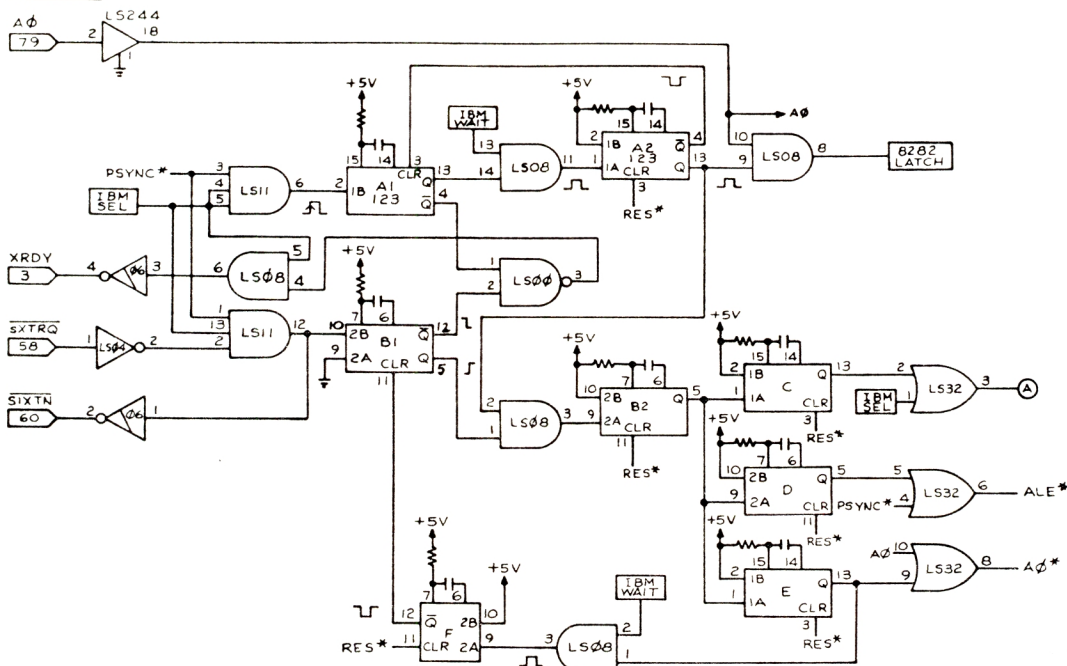
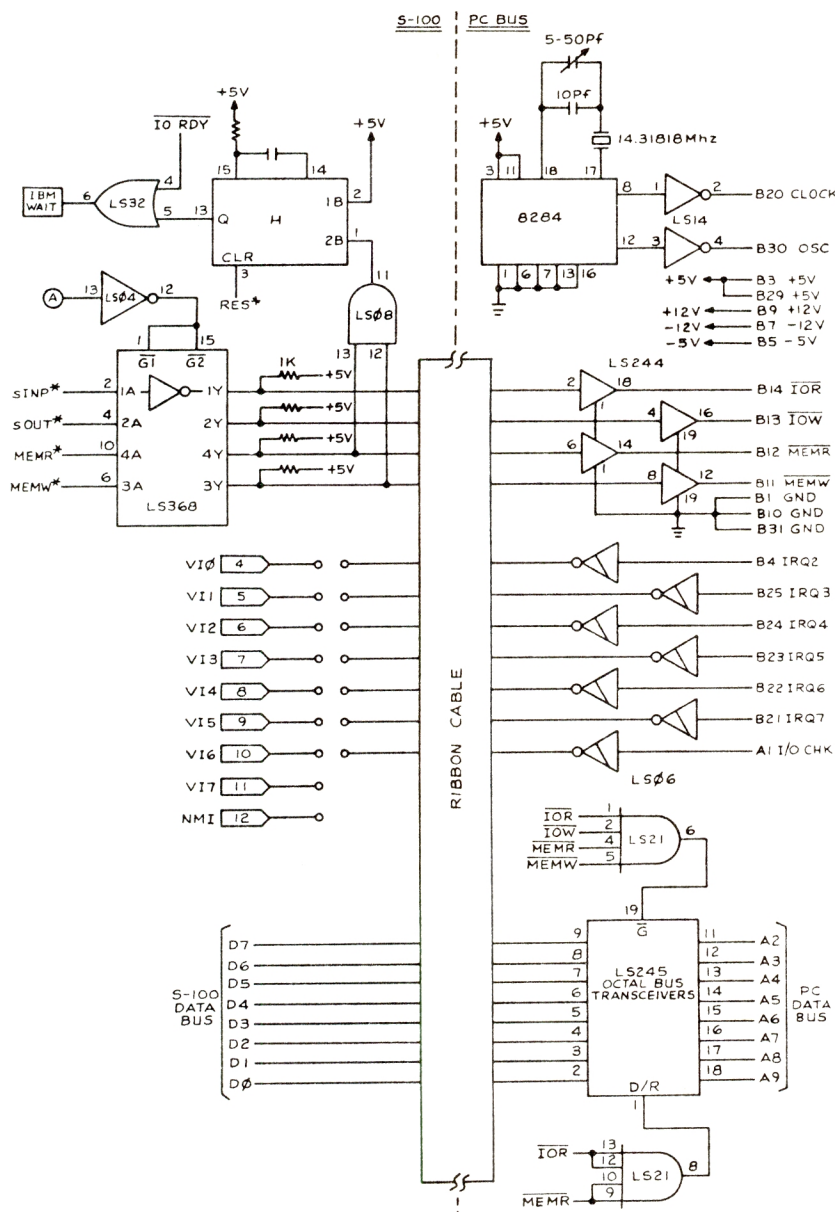

FIGURE 2
FIGURE 4
**A1 - I/O CH CK** Provides the CPU with parity error information if an error is detected on any IBM card. It is normally high and is only pulled low when an error is detected. This signal is simply passed directly on to S-100 bus via NMI int line (pin 12) using an open collector output (figure 4).
**B20 CLK** This is the IBM-PC bus system clock (4.77 MHz , 33% duty cycle). Since the system clock on my S-100 system will normally be running at a very different frequency (8 MHz at present), it is clearly necessary to generate a separate system clock on the PC motherboard. The simplest way to do this is copy the PC directly by using an 8284A clock generator (figure 4), insuring that timing on the bus will be exactly as in a PC.
Figure 2 is the heart of the circuit. Let us consider first 8 bit memory read or write. If the IBM select circuit (described below) determines that the S-100 CPU is addressing a board in one of its PC windows, the Q1 output of one-shot A1 will go high after pSYNC goes high. At the same time the not Q output of A1 will go low holding the S-100 bus in a permanent wait state. The read/write strobe going to the PC board (figure 4) will cause IBM WAIT to go high. When this is over (and it is important to remember that this is highly vari-
wait state by the not Q output of B1. This is because now the S-100 signal SIXTN went low triggering B1. After the low order address data is latched into the 8282 (see above) there is a short delay via B2 after which the falling edge of B2 triggers the start of the second cycle. Pins 1 and 15 of the 74LS368 (figure 4), which enable the read/write strobes, temporarily go high. They then return low. The PC sees this as a new R/W strobe. See figure 6 for a detailed timing diagram. We also raise A0 via single shot E and relatch the address lines by a pulse from single shot D. When the R/W strobe comes down, the IBM Boards think a new board access is required. After the (variable length) wait state is generated (via IBM WAIT) the single shot F is triggered. This in turn clears B1, which in turn removes the wait state held on the S-100 bus.
Figure 4 shows how the read and write strobes are connected to the IBM bus. Because some static memory boards may not put a wait state on the IBM bus (ie. lower IO RDY) when they are read or written to, and the circuit in figure 2 requires at least a minute pulse of a wait state, a minimal IBM WAIT state signal is generated via single shot H.
The 74LS245 in figure 4 is a bidirectional transceiver for the 8 data lines going to the IBM bus. It is enabled when IOR, IOW, MEMR or MEMW goes low. Pin 1 determines the direction. You may jumper the IBM bus IRQ lines as you wish.
Table I shows the capacitor and resistor values for the one-shots used in figures 2 and 4. While putting the board together I used variable resistors to fine tune the system. There is much room for upward variation in the values. Figure 6 shows the scope traces at various points on the board when the small test program shown in figure 7 is run. This test can be used when adjusting the R-C values of the one shots. In the program a continuous series of 16 bit, 8 bit even and 8 bit odd reads to the PC video board are made. The scope is triggered on pin 12 of the 74LS11 in figure 2. The scan rate is 1 micro-sec/cm.